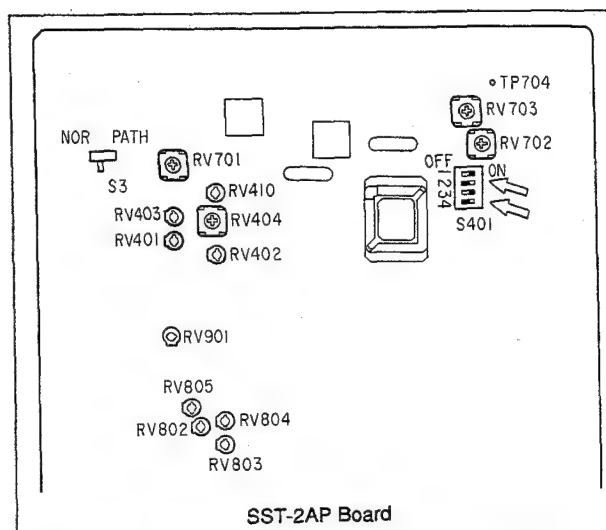
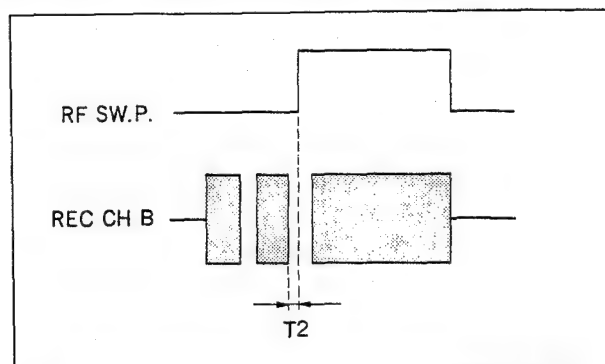

Fig. 6-10-4 Switching position check (REC B) ①
Fig. 6-10-5 Switching position check (REC B) ②
2. Set the switch S401-1 and -3 on SST-2AP board to ON (Fig. 6-10-4).
4. Use the REC head PB harness in the same manner as section 6-9, item 1.
6. Check the error T1 of the wave shape indicated in the figure to satisfy specifications 2 (Fig. 6-10-5).